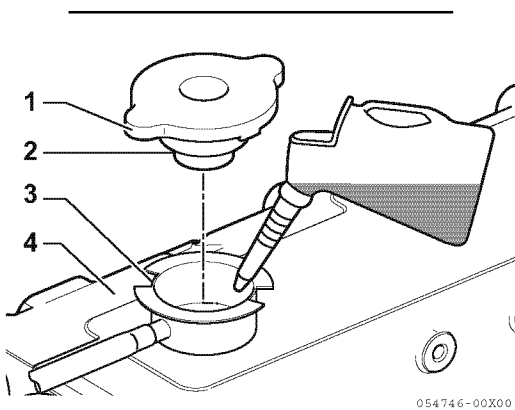

Figure 14
3. Pour coolant slowly into coolant tank (Figure 14, (4)) to avoid air bubbles. Fill until coolant overflows from the filler port.
4. Align filler cap tabs (Figure 14, (1)) with filler port notches (Figure 14, (3)) and tighten filler cap (Figure 14, (2)) firmly.